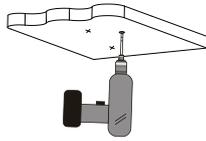

Fig.8
- Step5 Install the product on the place where you marked.(as fig.8)